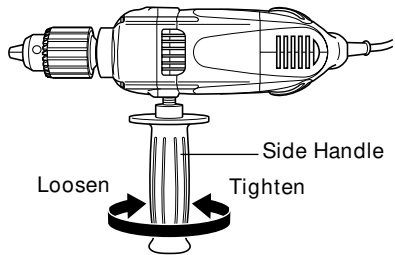

Fig. 5
- (2) Firmly grasp the ring and turn the sleeve in the clockwise direction. Tighten securely.
- (3) To remove the bit, firmly grasp the ring and turn the sleeve in the counterclockwise direction.
8. Installing the side handle (Fig. 5)